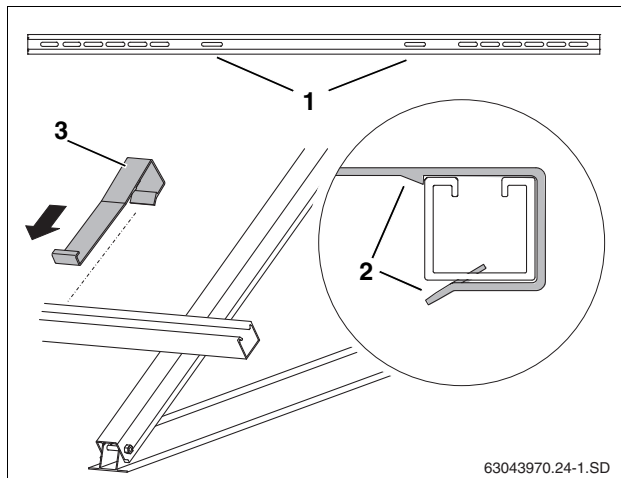

Fig. 36 Attaching collector hanger
- ▶ Push each hanger (Fig. 36, [3]) into the innermost slots (Fig. 36, [1]) of the profile rails until it clicks into place (Fig. 36, [2]).